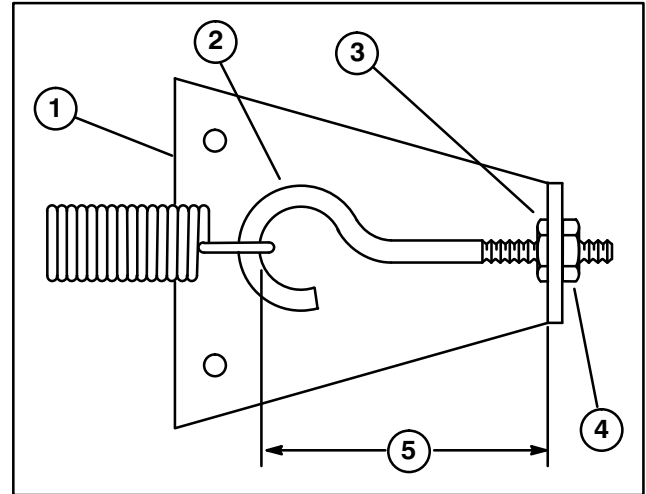

Figure 69
CHECKING AND ADJUSTING TRACTION LINKAGE (Fig. 69)
4. Rotate, clockwise, until distance between inside of eye bolt loop and inside of spring anchor plate is shortened $\frac{1}{8}$ ", as shown in figure 69. Tighten hex nut.